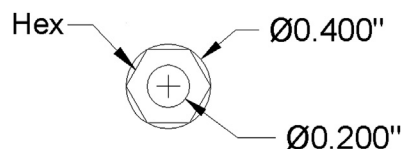

FIGURE 8.24
Step 3. To begin the drawing itself, we need to start with the hex bolts. Go ahead and draw one of them according to the information in Figure 8.24. Be *very* careful, all sizes are